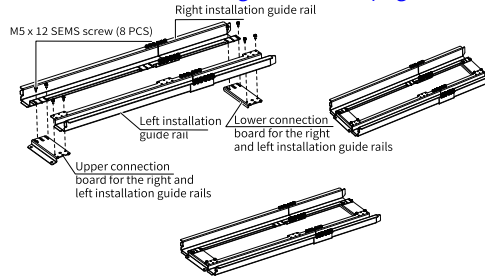

Figure 5-8 Assembling guide rails
- a. Assemble the guide rail, as shown in *"Figure 5-8 " on page 108 .*